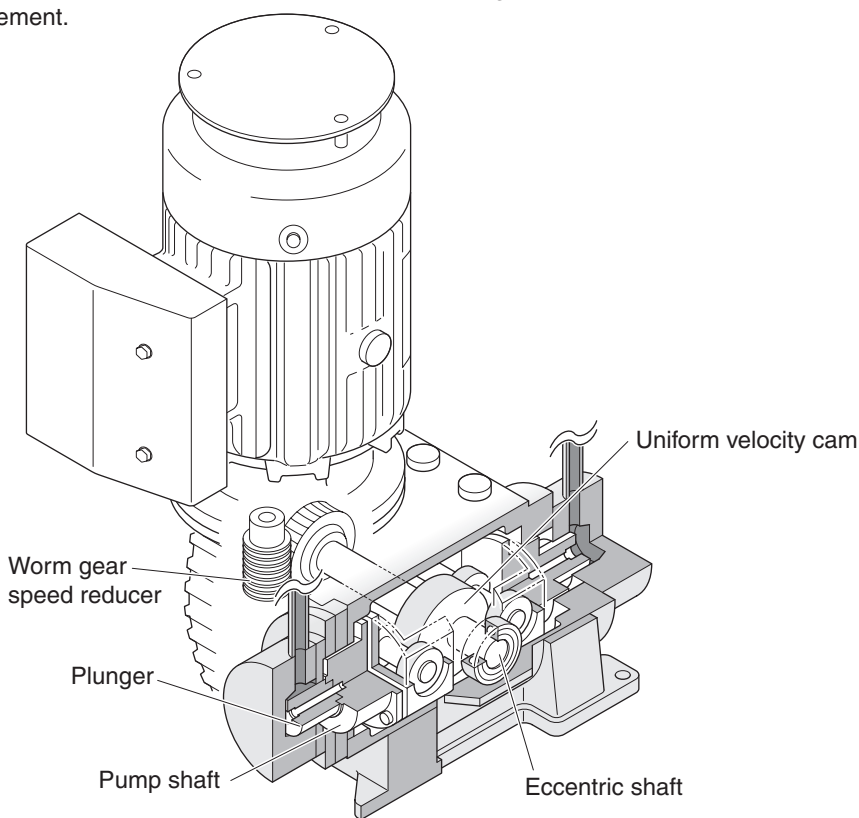

Fig. 1
- (1) The rotation of the motor in Fig. 1 is decreased or increased by the worm gear speed reducer to the rotational speed which is optimally suited for the pump.
- (2) The rotational movement of the motor in Fig. 1 is converted by the uniform velocity cam attached to the eccentric shaft into the reciprocating movement of the pump shaft. Linked to the reciprocating movement of the pump shaft, the plunger repeats a left-right reciprocating movement.